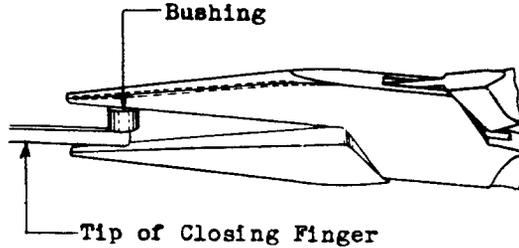

Fig. 6 - Method of Replacing Trip or Closing Finger Bushing
3.21 Closing Finger Bushing: Remove the driving segment as described in 3.18 and then remove the old bushing by cutting it with the diagonal pliers. Place the new bushing on the closing finger, and force it into position with the long nose pliers as shown in Fig. 6, taking care not to mar the finish on the finger or to break the bushing. If difficulty is experienced in forcing the bushing on the finger, the finger may be heated slightly with a soldering iron which will soften the bushing sufficiently to permit it to be forced into position.